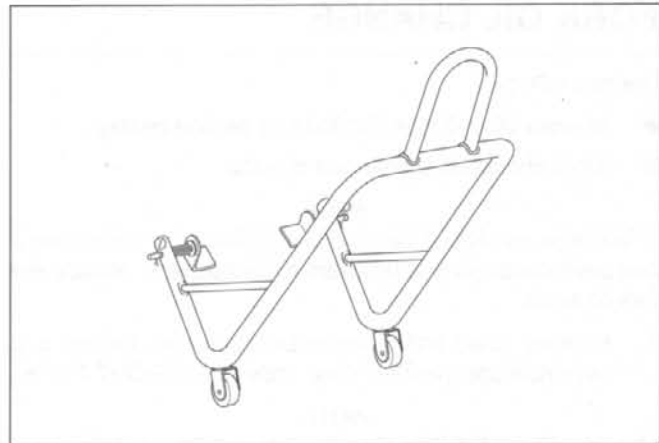

Figure 1-56. Rear Wheel Stand
2. See Figure 1-56. Raise rear wheel off ground with REAR WHEEL SUPPORT STAND (Part No. B-41174).